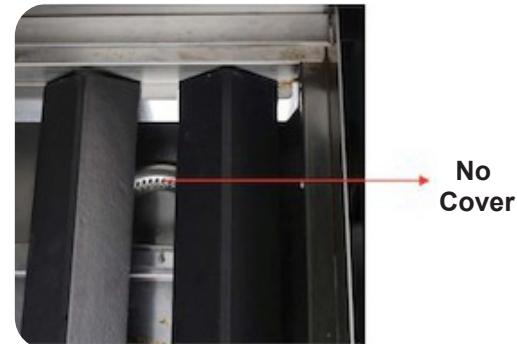

Fig. 8-1
1. Place the angled radiants in their position as shown in Fig. 8-1.